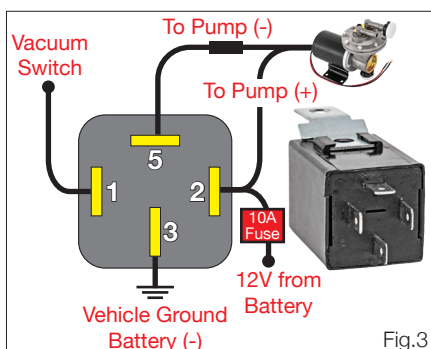

Fig.3
6. A detailed diagram of relay and proper connections. Proper connections to relay explained in Figure 3.